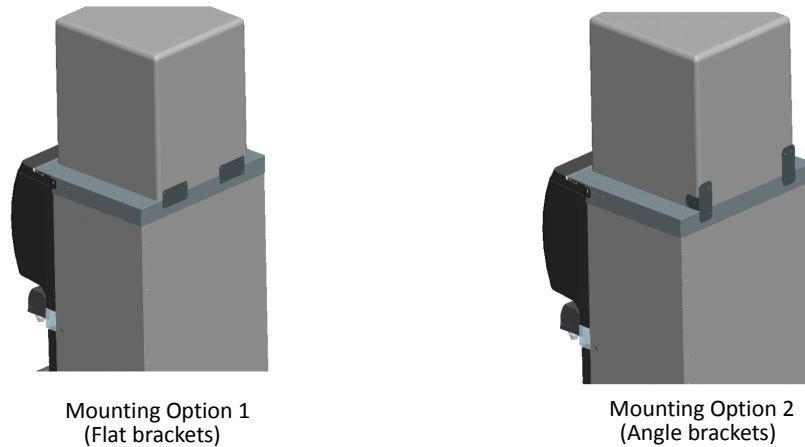

Figure 4.
Two options are supplied with this kit for securing the icemaker to the kit, See Figure 4.
9. The next step is to secure the icemaker to the kit. Depending on the mounting method chosen, use the appropriate brackets (supplied) as templates to drill four 9/64" (.140" Dia.) holes into the back side of the adapter kit. Drill four holes of the same diameter into the icemaker, See Figure 4. Ensure the location of the brackets will not damage the kit or the icemaker prior to drilling any holes. **USE EXTREME CAUTION NOT TO DRILL INTO ANY OTHER COMPONENTS.** Drill depths should not go further than the thickness of the material being drilled (just enough to go through). Secure the two brackets using the screws provided. For optimal performance, **DO NOT** fill ice bin more than 2/3 capacity (maximum fill is 4" below top of bin).